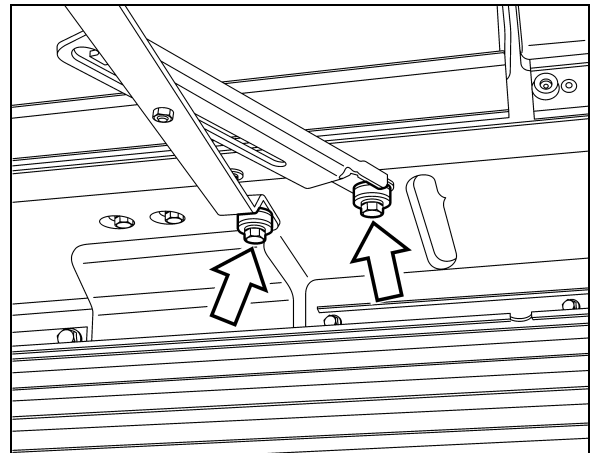

FIGURE 23: UPPER ARM ASSEMBLY
8. Open radiator door to access radiator assembly. Unfasten upper arm assembly (Figure 23).